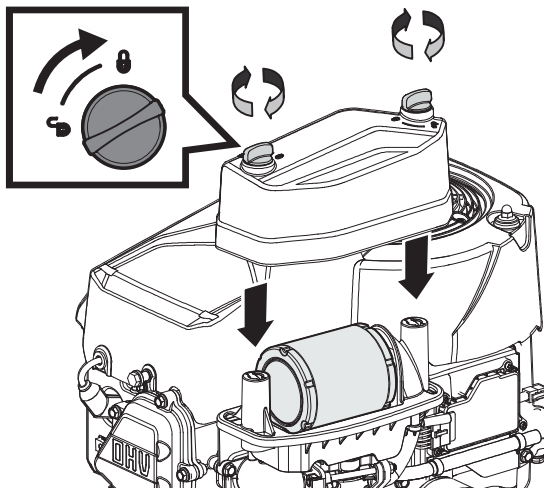

Figure 12
7. Attach the air filter cover (Figure 12). Turn thumb screws clockwise a 1/4 turn until snug. Check for any misalignment.